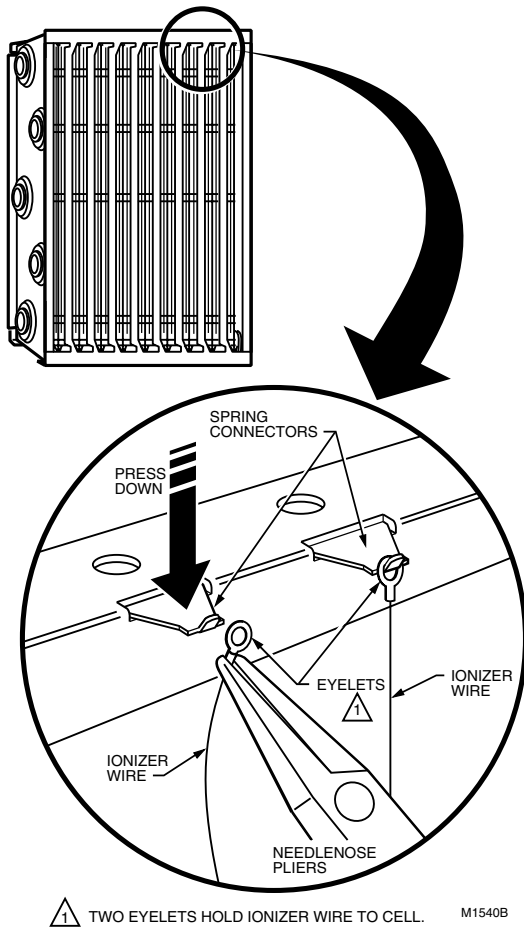

Fig. 15. Install new ionizer wire by hooking eyelets over spring connectors.
1. Hook the eyelet on one end of the wire over the spring connector on one end of the cell. See Fig. 15. Be careful to avoid damaging the spring connector or other parts of the cell.